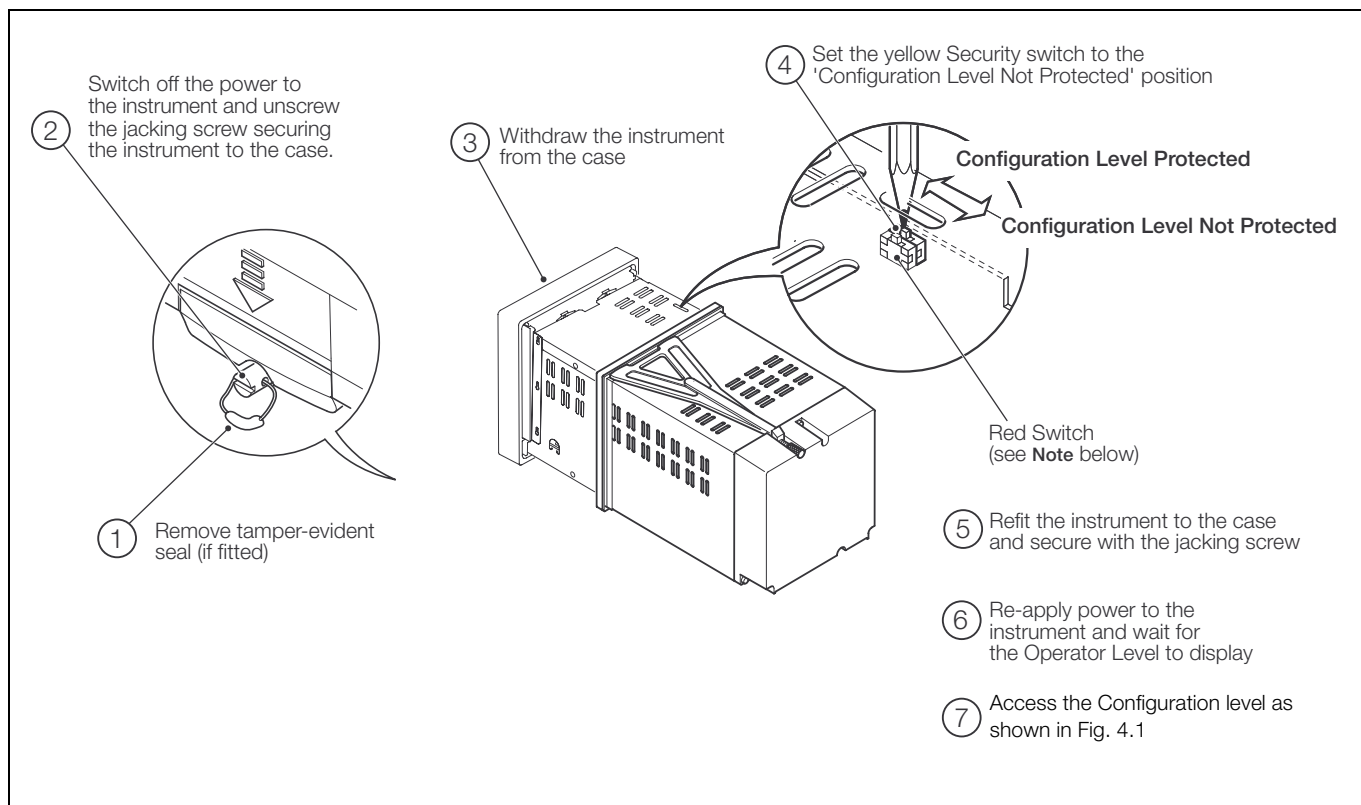

Fig. 4.2 Setting the Security Switch
The Configuration level cannot be accessed until the instrument is withdrawn from its case and the internal switch set to the 'Configuration Level Not Protected' position – see Fig. 4.2, page 47.
Internal Security Switch Setting (see Fig. 4.2, page 47)	'Configuration security' Parameter Setting (see Section 4.4.4, page 56)
- Set the internal security switch to the 'Configuration Level Not Protected' position – see Fig. 4.2, page 47.